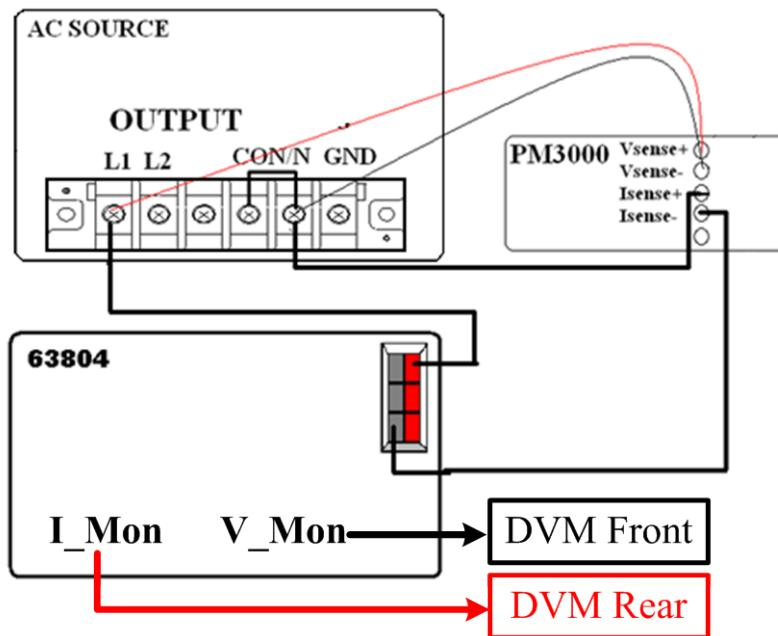

Figure 10-1: AC Load, AC Source, Power Analyzer and DVM Wiring Diagram
1. *Figure 10-1:* Use AC Source to output for connecting L1 and N. PM3000A consists of current and voltage terminal. The current terminal used cable needs to withstand current 45A above and withstand voltage 500V DC above. The voltage terminal requires withstanding voltage 500V DC above, withstanding current 0.1A above. The voltage terminal of PM3000A, Remote Sense terminal of DVM and AC Load should be at the same location, moreover it had better close to output location of AC Source. Use BNC to alligator clip cable to connect DVM Front terminal to V\_Mon terminal of AC Load. However, use another BNC to alligator clip cable to connect DVM Rear terminal to I\_Mon terminal of AC Load.
AC wiring diagram is as *Figure 10-1*, please switch AC Load to CF only mode. The procedures are described as follows.